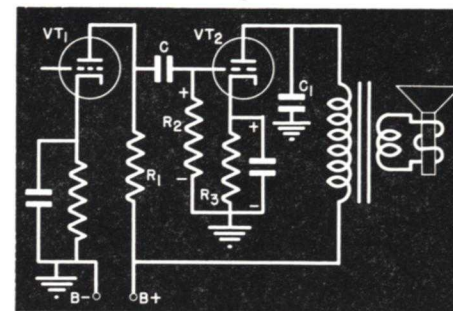

FIG. 9. Most distortion complaints are due to troubles in audio stages like this one.
tive. The self-biasing feature of tube  $VT_2$  in Fig. 9 will compensate for small voltages across  $R_2$ , but usually the coupling condenser leakage progresses to a point where the self bias can't keep up. The tube then operates on the upper half of its  $E_g-I_p$  curve, and a very annoying type of distortion is produced.\*
▶ In a resistance-coupled amplifier, the most common cause of amplitude distortion is incorrect grid bias caused by a leaky coupling condenser. Fig. 9 shows a typical circuit. If condenser  $C$  leaks,  $R_1$ ,  $C$  and  $R_2$  form a voltage divider across the B supply. The voltage developed across  $R_2$  has the polarity shown, making the grid of the tube less negative than normal, or even posi-